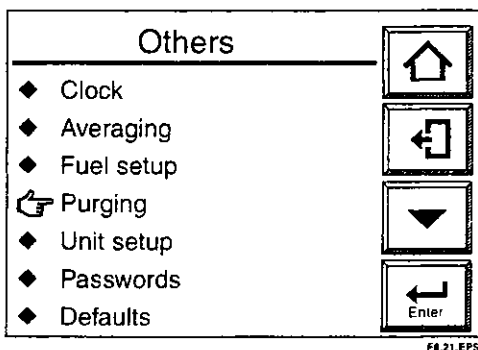

Figure 8.21 Other Settings
- (1) Press the Setup key in the basic panel display to display the Execution/Setup display.
- (2) Select Setup in the Execution/Setup display. The "Commissioning" (Setup) display then appears.
- (3) Select Others in that display and the Others display then appears, as shown in Figure 8.21.